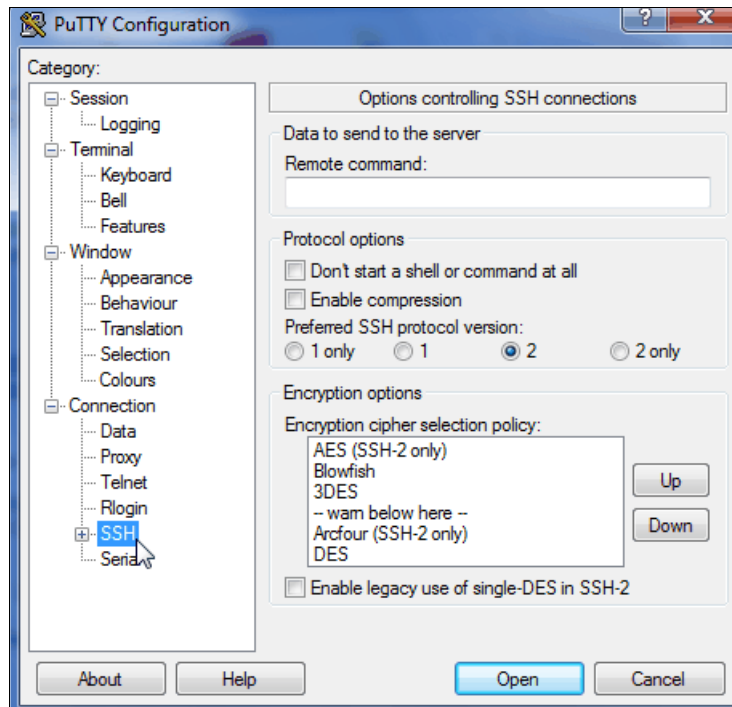

Figure A-10 SSH protocol version 2
2. In the Category pane, on the left side of the PuTTY Configuration window (Figure A-10), click **Connection** → **SSH** to open the PuTTY SSH Configuration window.